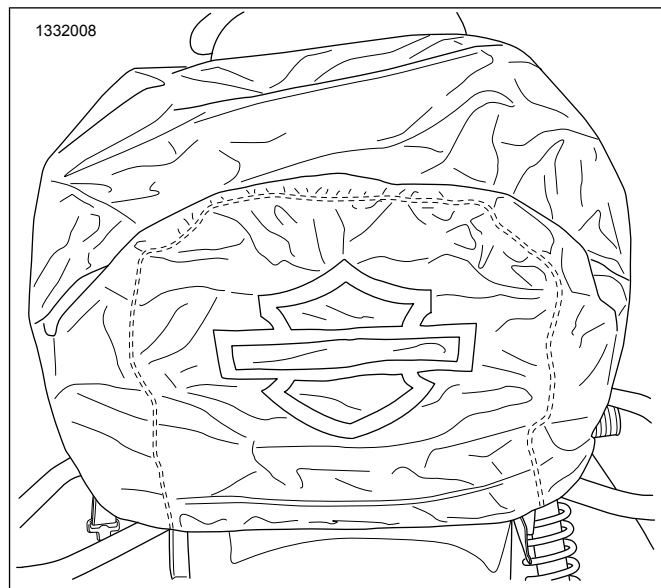

Figure 7. Rain Cover
1. Figure 7 Pull rain cover over entire bag with Bar and Shield facing rear of bag.